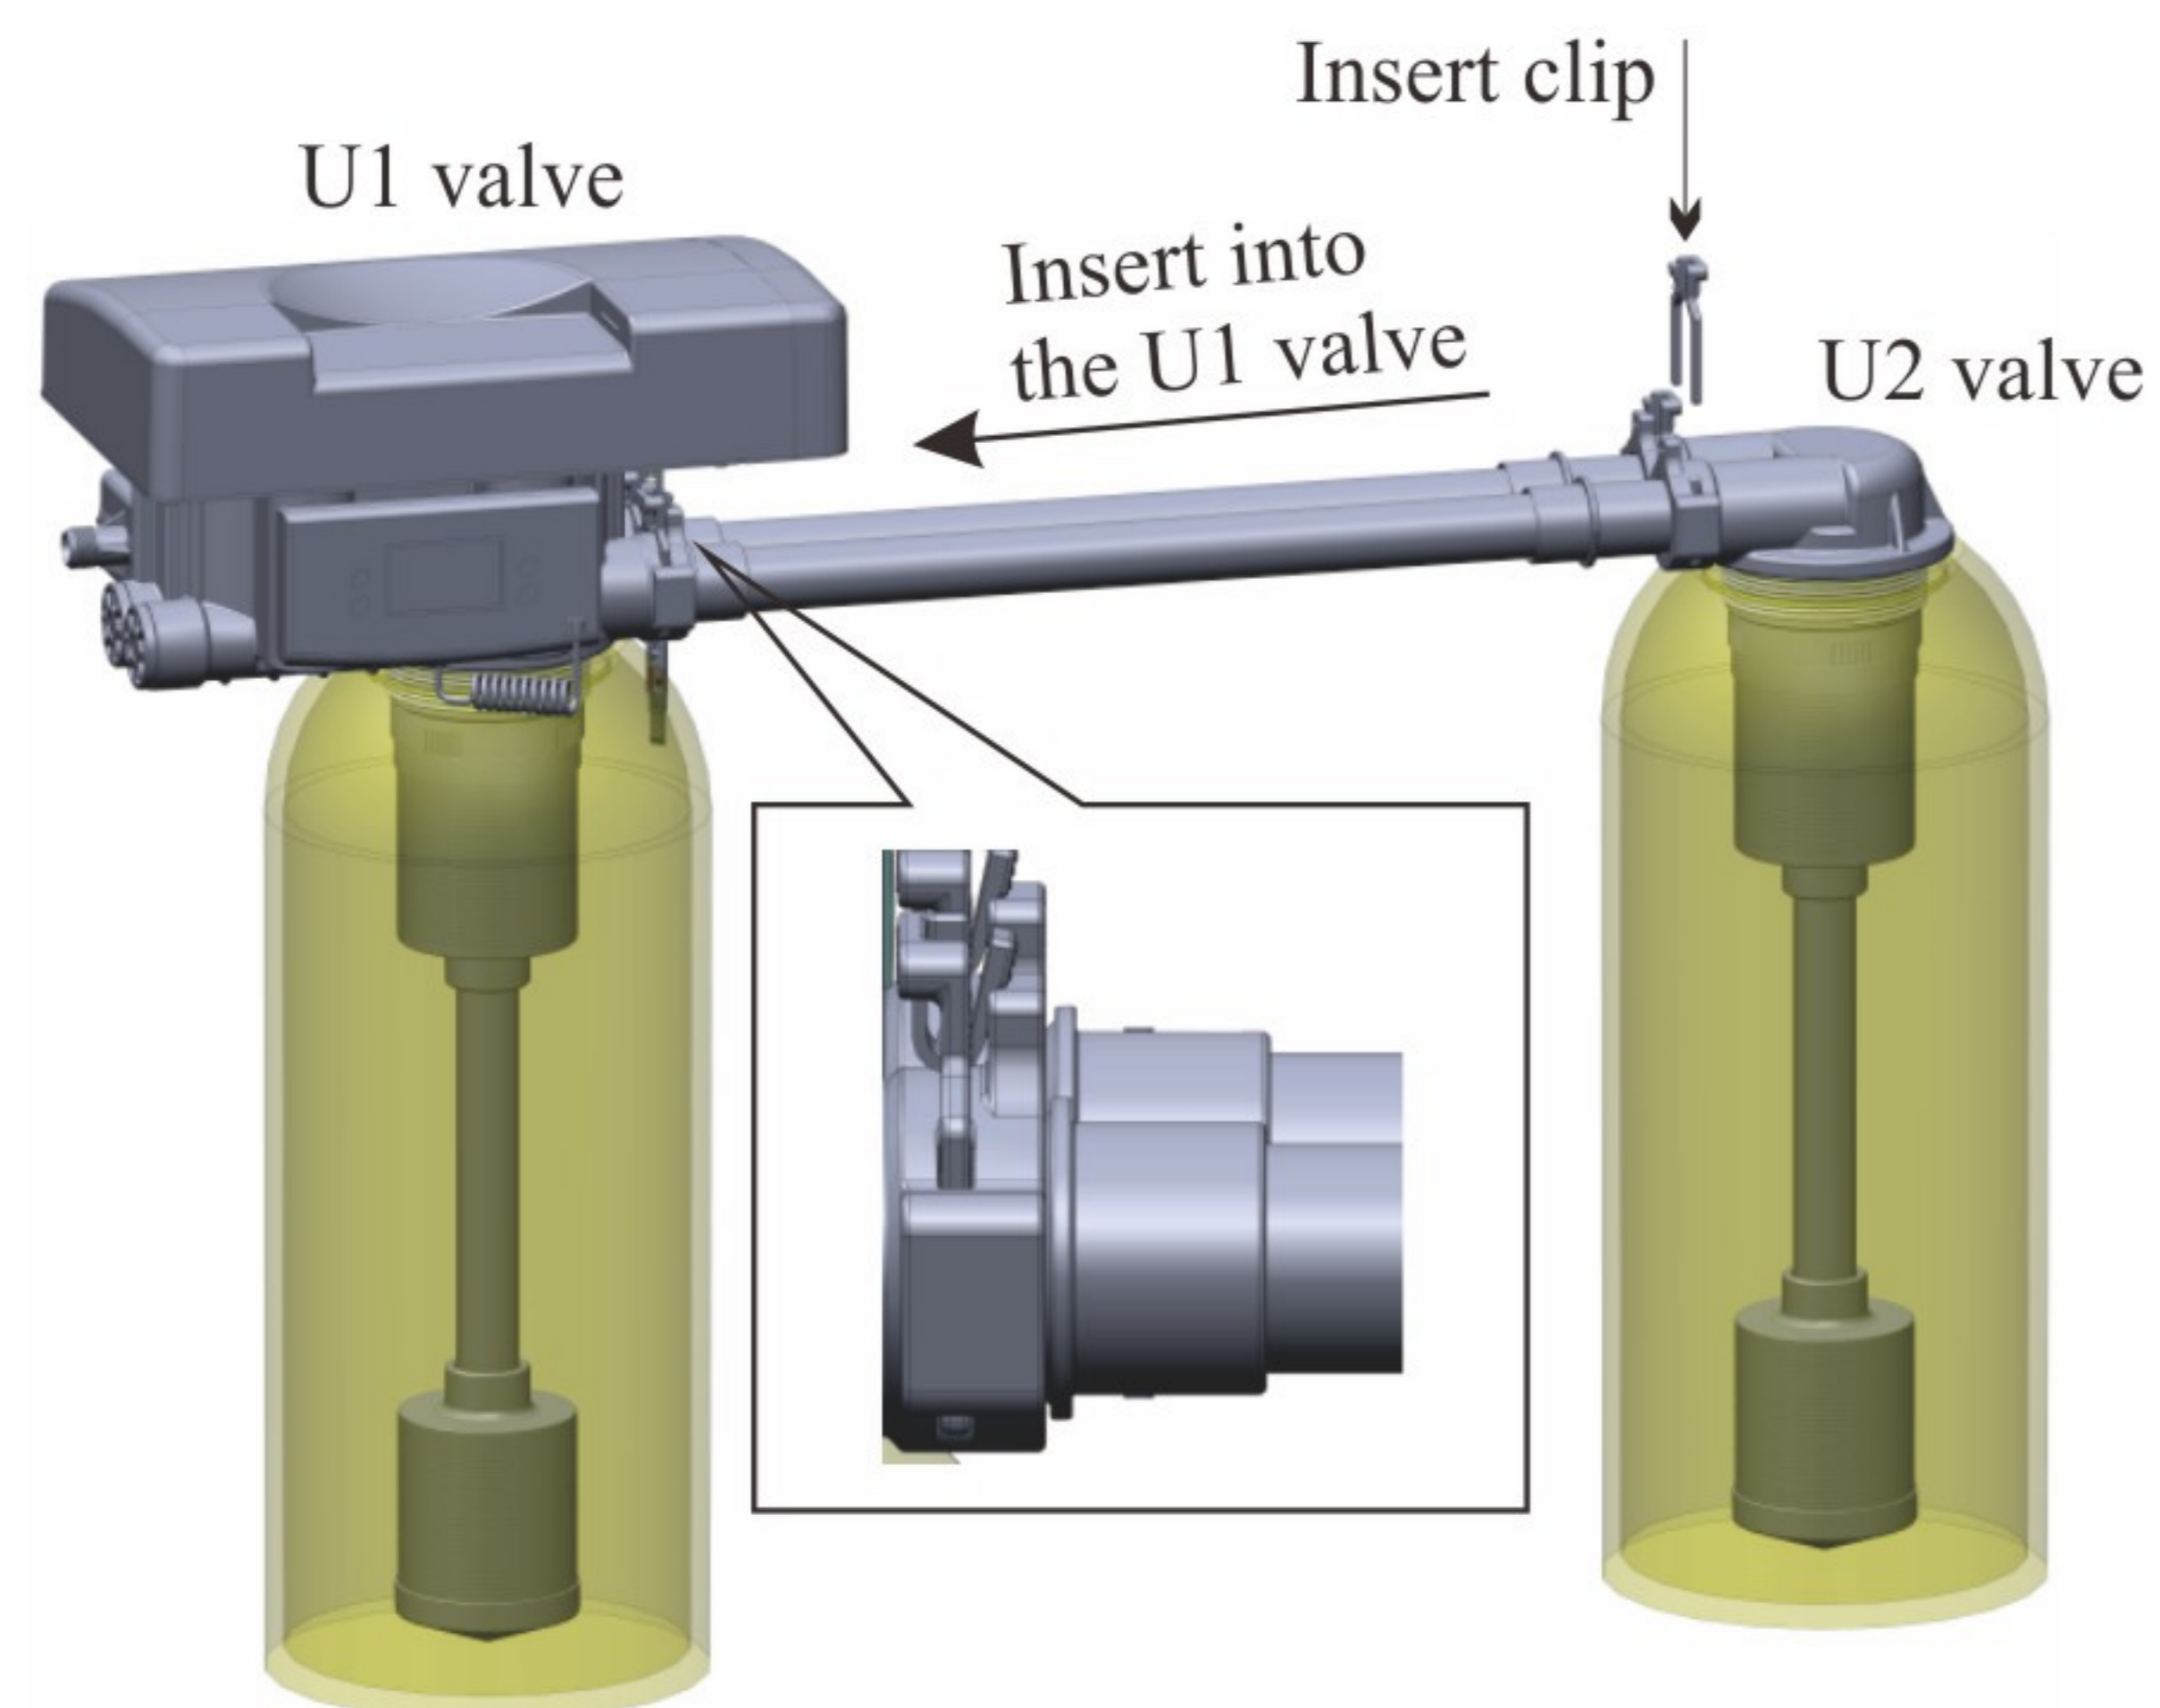

Figure2-2-4
4. As Figure 2-2-4 shows, insert the connecting pipe to the U1 valve, and then insert the clips of U1 valve and U2 valve to fix the connecting pipe (if the reserved gap in Step 3 is not 8.2mm, the clips of U2 valve couldn't be inserted!).